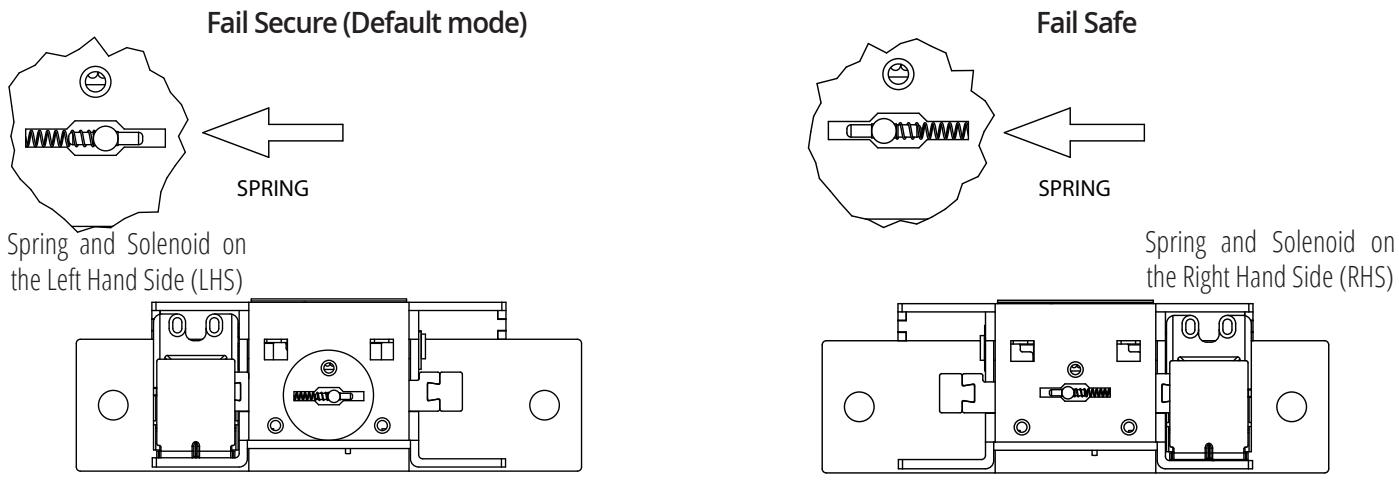

Figure 6.2 Spring
4. Remove the tiny spring, shift the slider to the other side, and reinsert the spring. By-default the spring must be located to the Left Hand Side (Fail - secure mode) (See Figure 6.2)